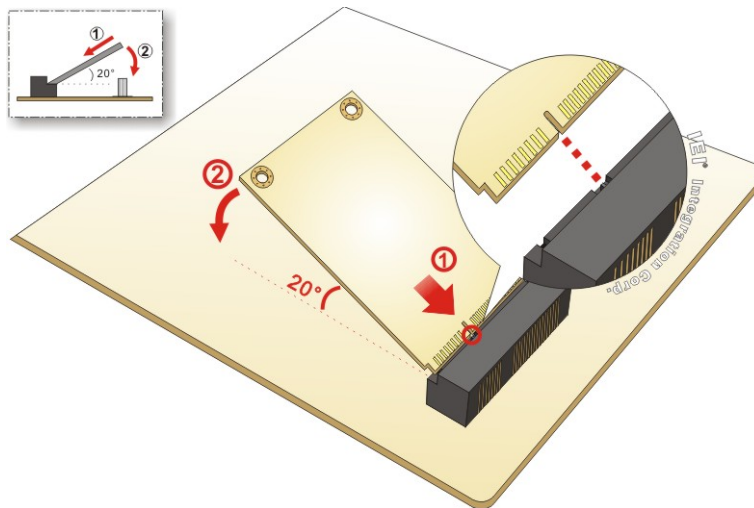

Figure 4-6: Inserting the Full-size PCIe Mini Card into the Slot at an Angle
Step 3: Line up the notch on the card with the notch on the slot. Slide the PCIe Mini card into the socket at an angle of about 20° (**Figure 4-6**).